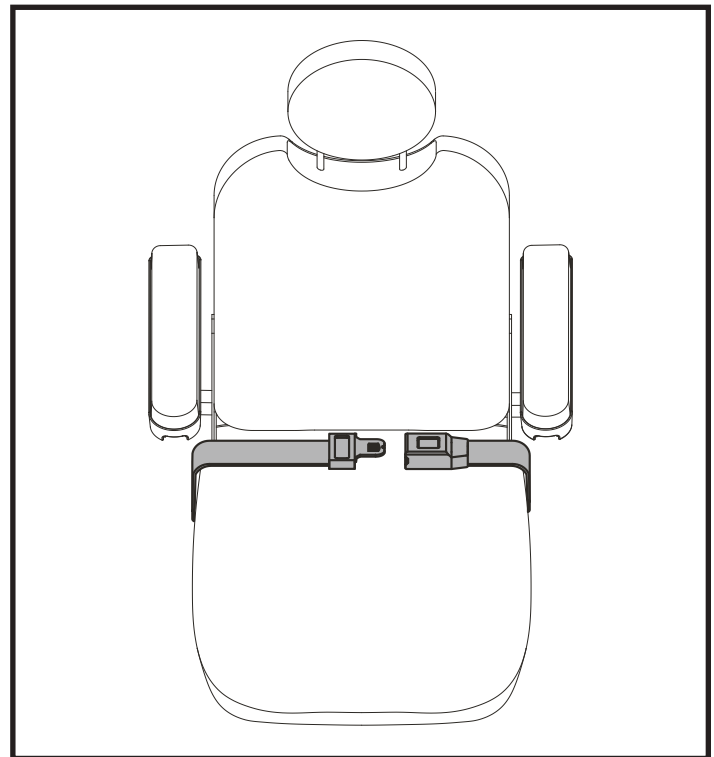

Figure 14. Positioning Belt Adjustment
Your power chair may be equipped with a positioning belt that can be adjusted for operator comfort. **See figure 14.** The positioning belt is designed to support the operator so that he/she does not slide down or forward in the seat. The positioning belt is not designed for use as a restraining device.
1. Once seated, insert the metal tab on one side of the belt into the plastic housing on the opposite side until you hear a click. **See figure 14.**